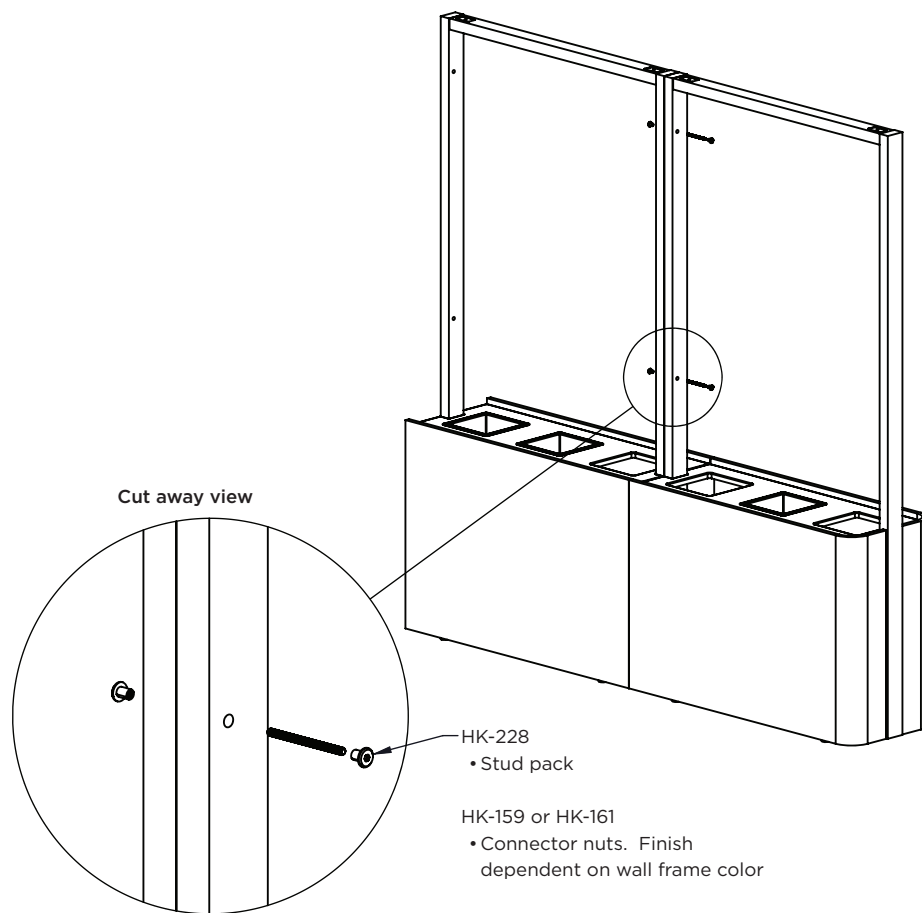

Figure 1E
5. Locate frame ganging hardware studs (HK-228) and connector nuts (HK-159 or HK-161, color dependent). Identify the correct stud length to use as the length will vary depending on the wall panel type, reference table in figure 1E to identify the appropriate length. Using two 5mm hex keys; bolt the two connector nuts and stud through the wall frame panels. There are two connector bolt joints per side. The height will vary depending on the units being ganged. (Figure 1D)